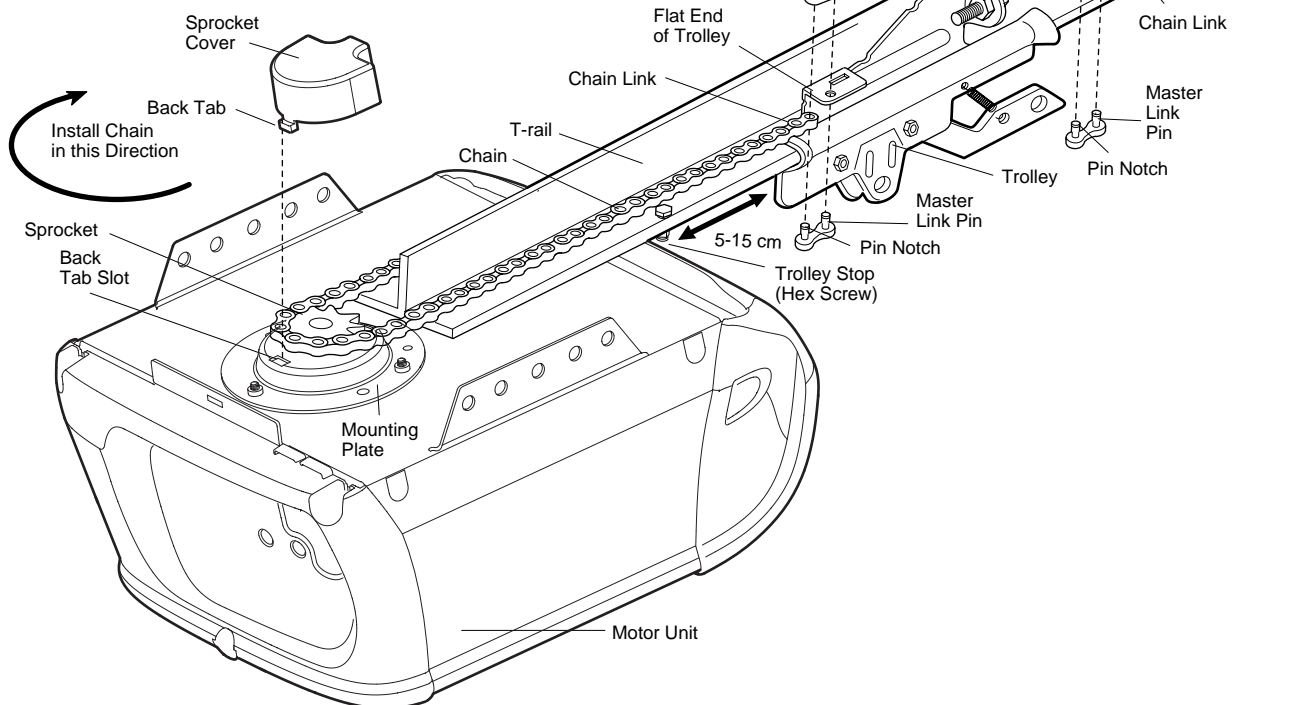

Figure 1
2. To prevent the trolley from jamming against the opener during operation, position trolley 5 to 15 cm from the stop hole as shown. Then dispense the chain around the opener sprocket (Figure 1). Make sure the sprocket teeth engage the chain.
3. Use the second master link to connect the chain to the flat end of the shaft (Figure 1). **Check to make sure the chain is not twisted.**